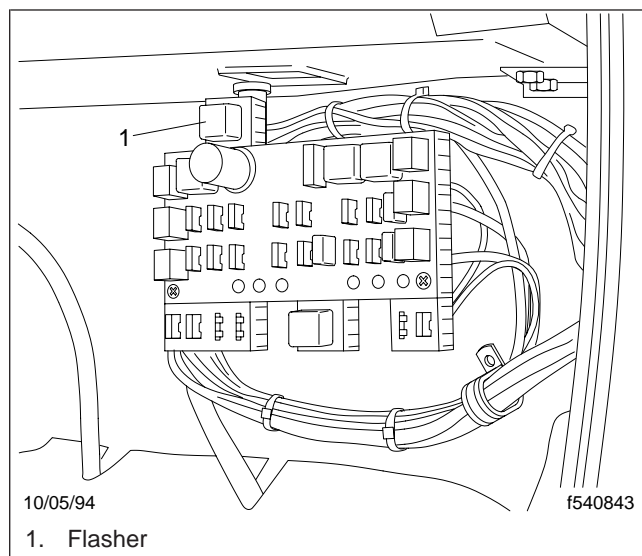

Fig. 1, Under-Dash Electrical Panel
1. Uncover the electrical panel (see **Fig. 1**) by removing the fasteners.
5. Check the turn-signal flasher (if so equipped). See **Fig. 1**. Make sure that the two male and female connectors are firmly connected. Check that the flasher fuse is firmly seated in its holder.